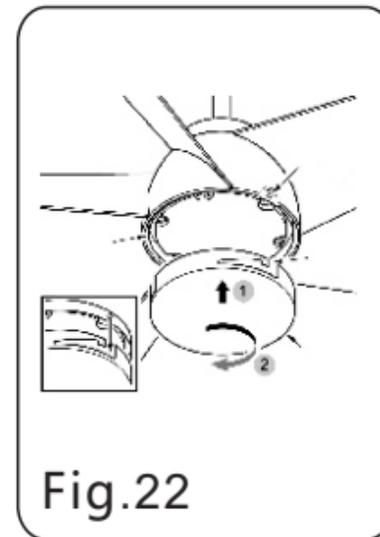

Fig.22
Step 4. Raise the shade and secure it to the fan by turning shade clockwise until snug. **DO NOT OVERTIGHTEN.** (Fig.22)